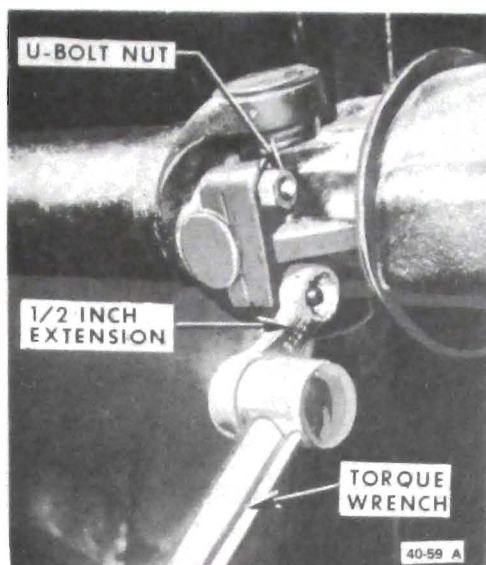

Figure 40-54 Using Extension to Torque U-Bolt Nuts.
3. Install U-bolts and nuts; torque nuts evenly to 12 lb. ft. See Figure 40-54. Avoid excessive torque on these U-bolts since car noise and joint durability problems may result if torque is too high.